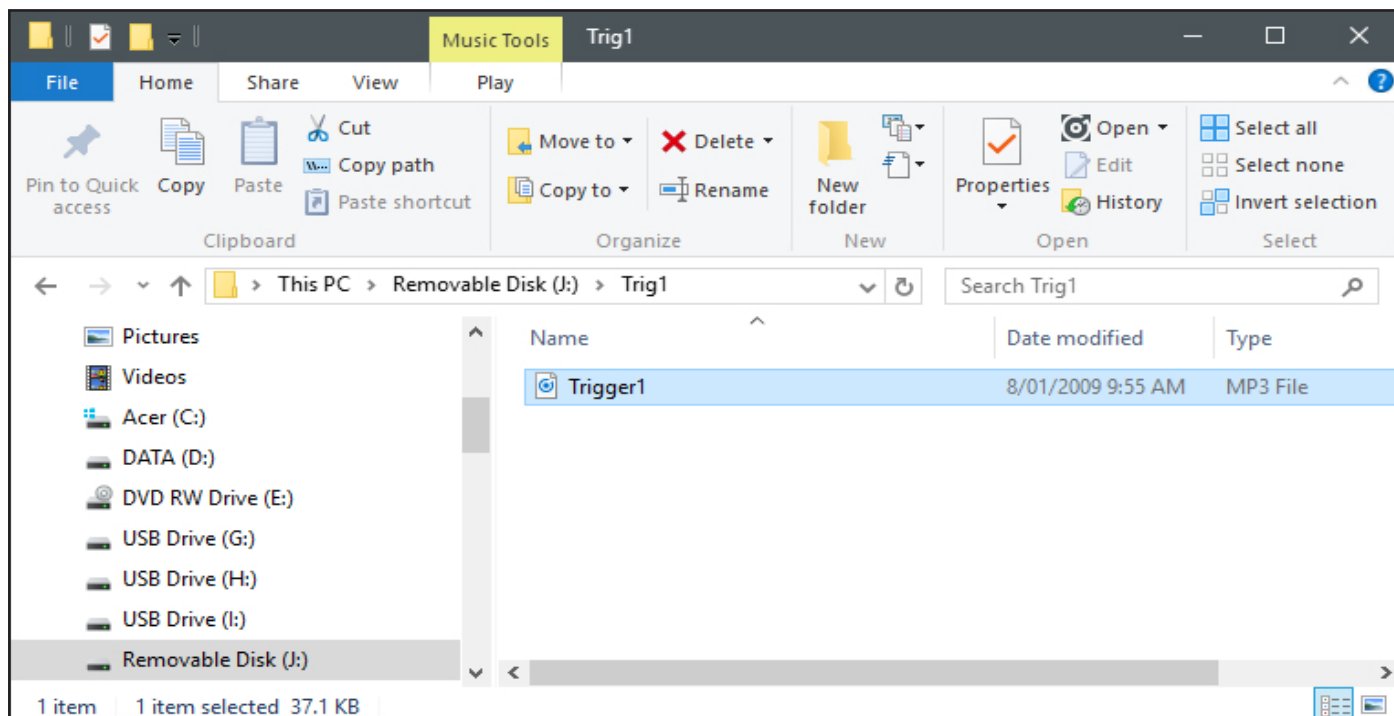

Fig 5
**Step 4:** Open the Trig1 folder and you should see an MP3 file which could be named Trigger1.MP3 as shown in figure 5.